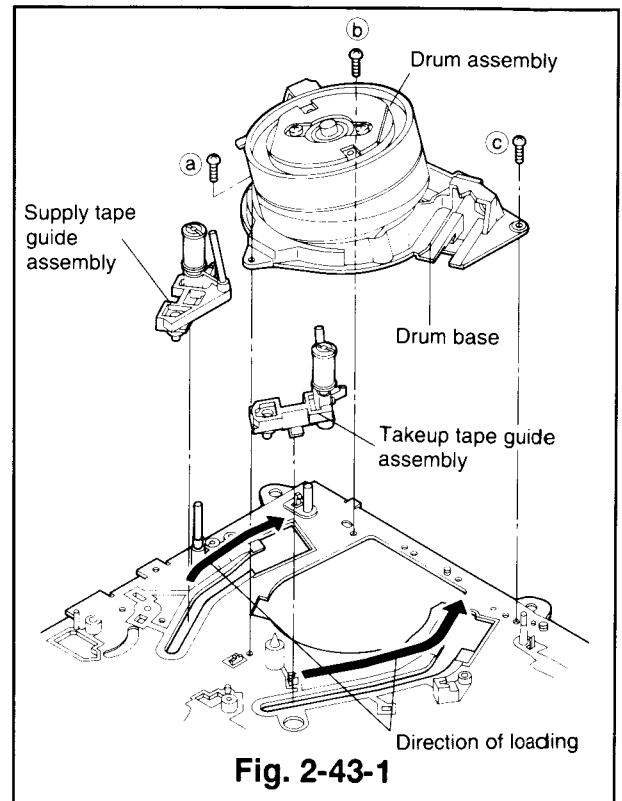

Fig. 2-43-1
(Refer to Fig. 2-43-1.)
- ② Install the supply and takeup tape guide assemblies so that they respectively enter the holes at the ends of the loading arms (SP and TU) attached to the reverse side of the deck as shown in Fig. 2-43-1.
- ⑤ Install the drum base on which the drum assembly is attached and secure it with the three screws (a, b and c) as shown in Fig. 2-43-1.